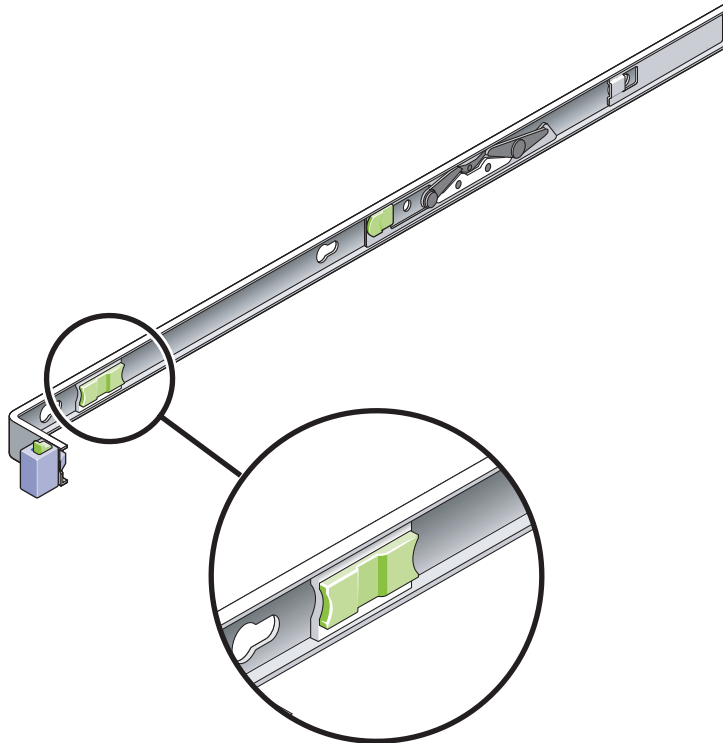

FIGURE 3-89 Release Levers
4. Release the slide rails from the fully extended position by pushing the release levers on the side of each rail (FIGURE 3-89).